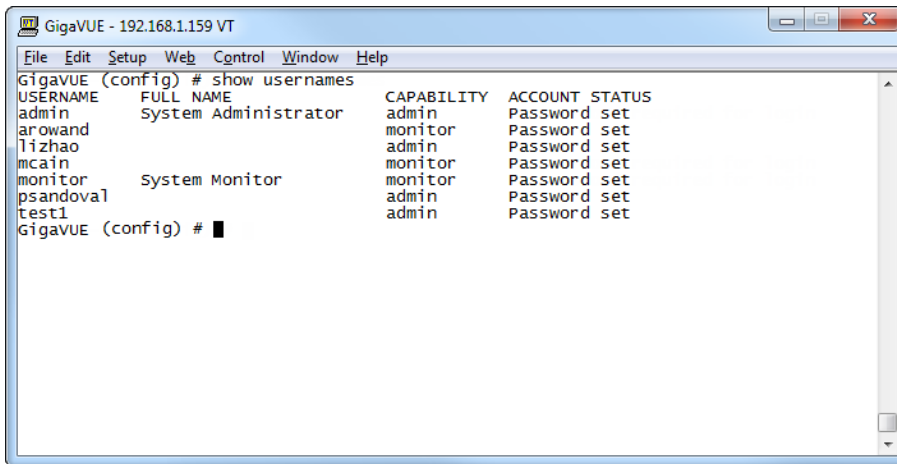

Figure 16 *Reviewing the User List*
- Once you have configured these basic user accounts, use the **show usernames** command to review your settings. Figure 16 Reviewing the User List shows some sample **show usernames** output after several users have been added.